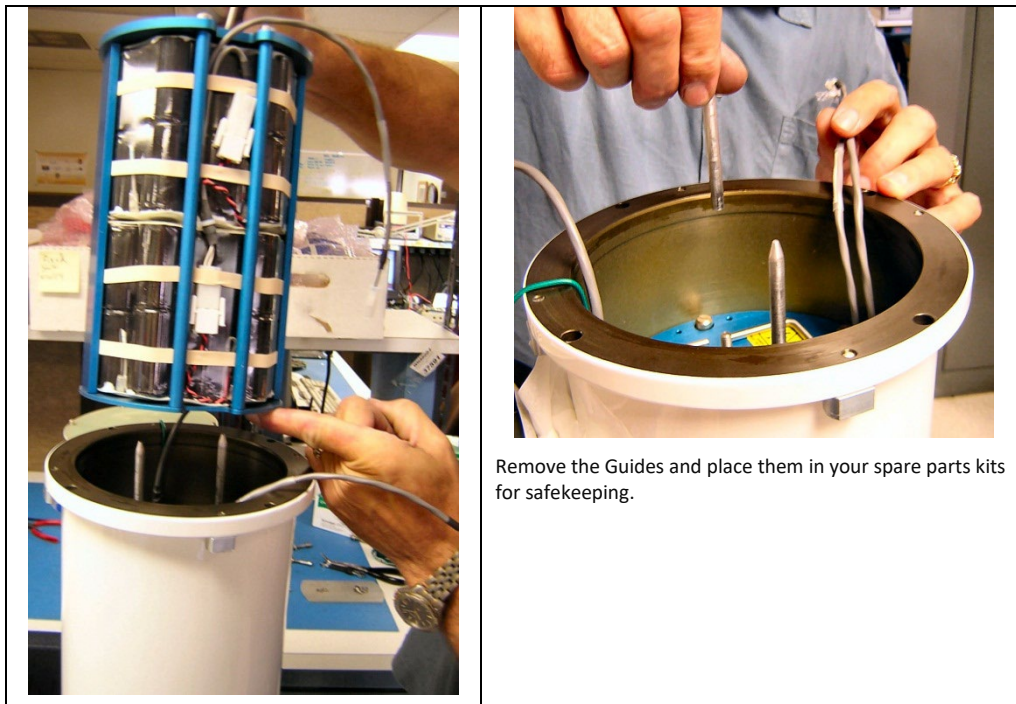

Figure 34. Installing the Battery Modules
1. Place the battery pack installation guides onto the threaded rods. Tighten the guides onto the threaded rod “finger tight” so they will not fall off (see Figure 34, page 68).